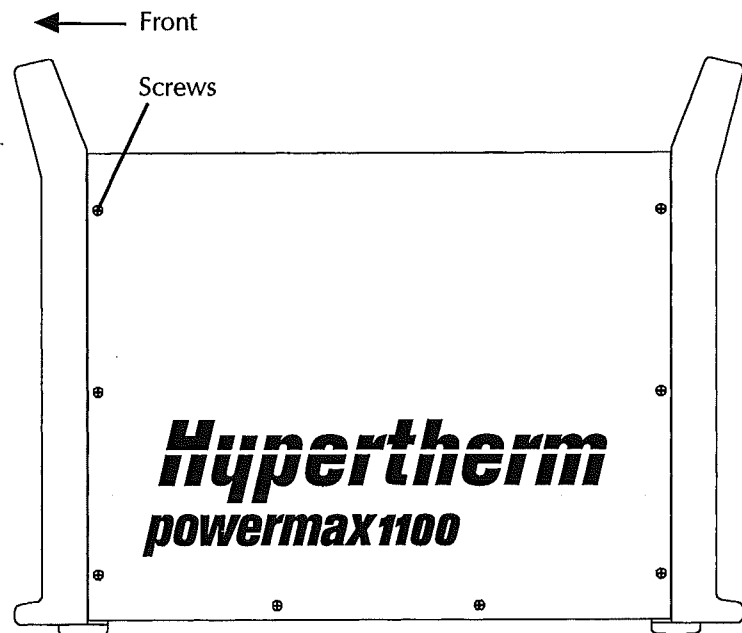

Figure 1 Cover Removal
2. Remove the screws that secure the cover to the chassis - Fig. 1.